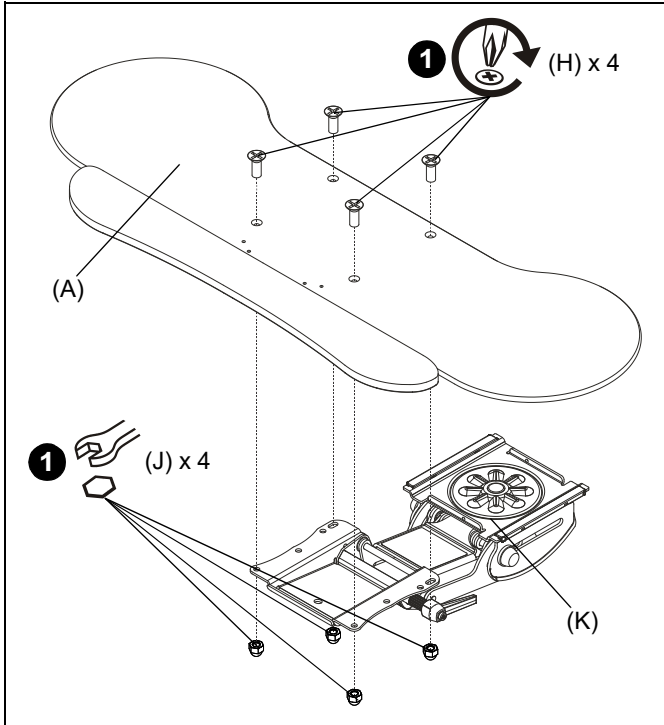

Figure 1
1. Use four #10-24 x 1/4" Phillips machine screws (H) and four acorn nuts (J) to secure keyboard tray (A) to keyboard mechanism arm (K). (See Figure 1)